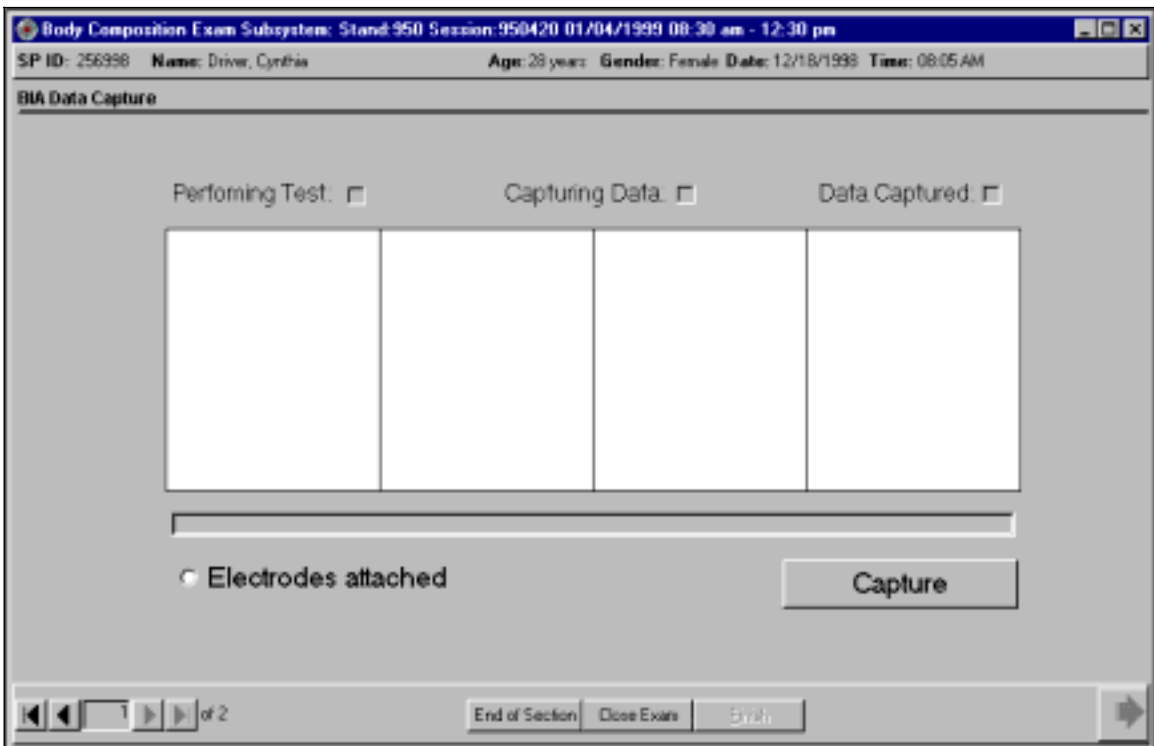

Figure 4-32. BIA data capture (1)
- The BIA data capture screen is shown in Figure 4-32.